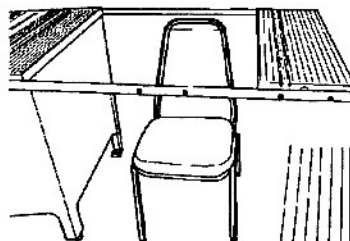

Fig. A-23
25. If you don't have a helper, place a chair (shown in Fig. A-23) or some other device on which to rest the fixed extension table during the following steps.